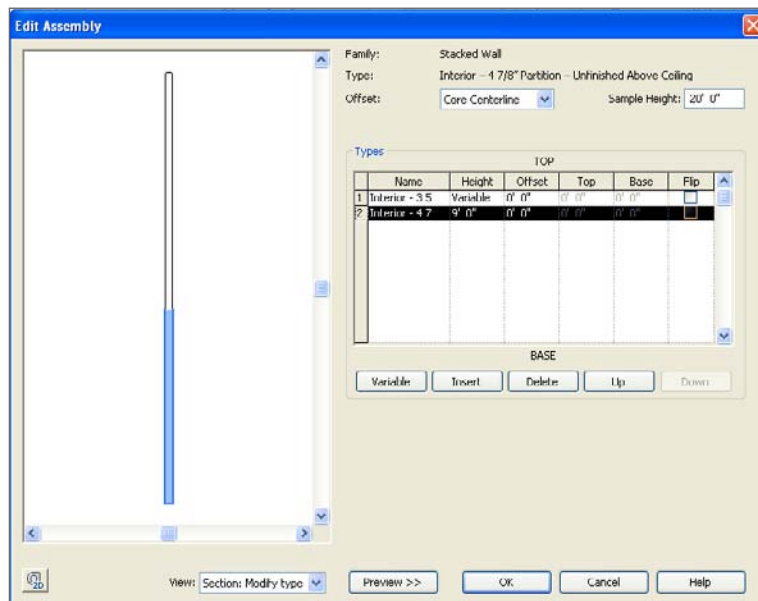

Figure 3.70
Notice that the middle section of the Edit Assembly dialog box (Figure 3.70) displays types rather than layers. The items listed in the Types list are displayed from the top of the stacked wall to the base. You are going to change the wall types listed to meet your needs.
9. Change Height to 9' 0". This will set the base wall to always be 9' 0" tall and will be the starting point for your top wall. Click the Preview button. Figure 3.70 shows the newly defined stacked wall.